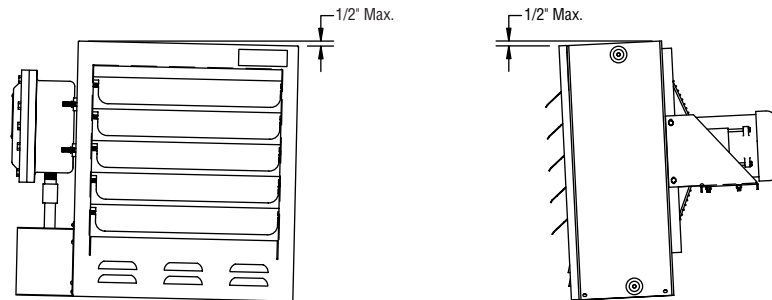

Figure 3
6. Install and operate in upright position only. Refer to Figure 3 for level requirements. Failure to comply will cause overheating of the element and shutting down the unit by tripping the high temperature cutout.
If using mounting hardware or a supporting structure not supplied by Marley, the unit should be suspended from the supporting structure thru the two mounting points on top of the unit with 5/8 NC bolts and lockwashers. If single point mounting is desired, order the correct size Marley adapter bracket (P/N 027-302361-001 for 12" fan units, P/N 027-302361-002 for 16" fan units) and P/N 027-302361-003 for 20" fan units. This bracket is designed to hold the unit over its center of gravity with a 1 dia. bolt. The maximum tilt angles as shown in Figure 3 must not be exceeded in either direction during operation and installation. Failure to comply will cause high limit shut down.